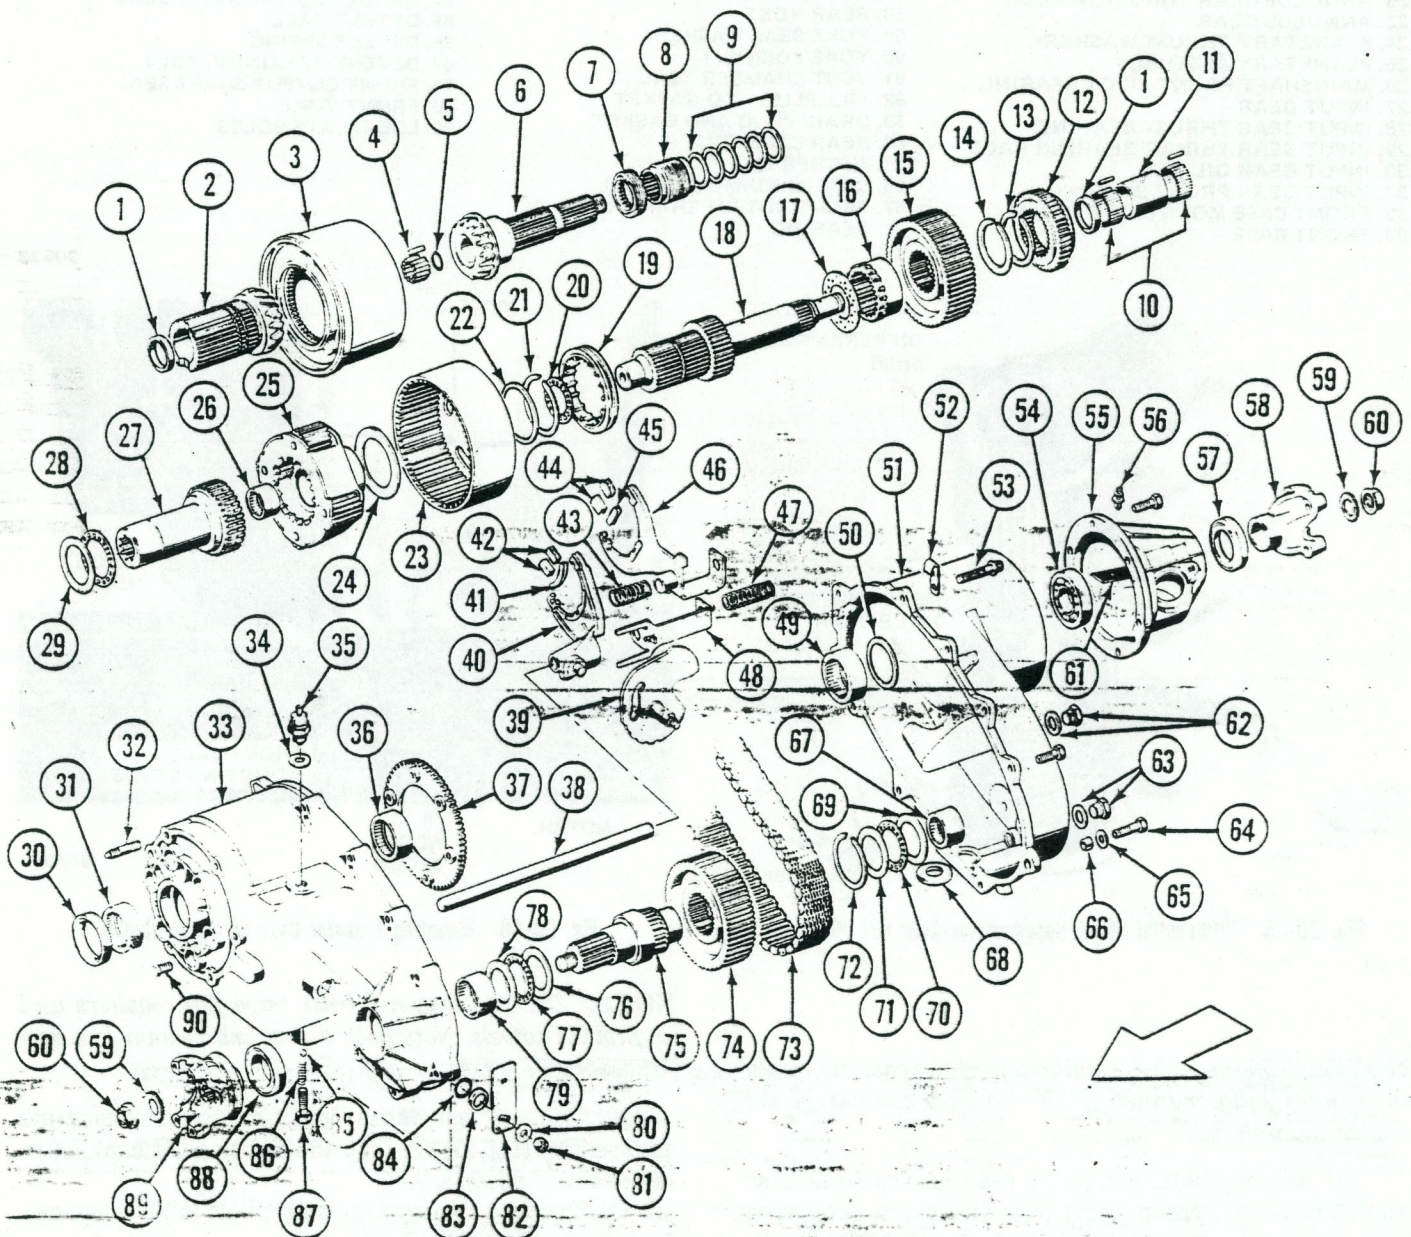

Fig. 2D-44 Model 219 Quadra-Trac Transfer Case
(6) Remove rear output bearing snap ring and remove bearing from retainer using plastic mallet.
(7) Remove rear output shaft seal from rear retainer using screwdriver or punch.
(8) Position front case assembly on wood blocks (fig. 2D-46).